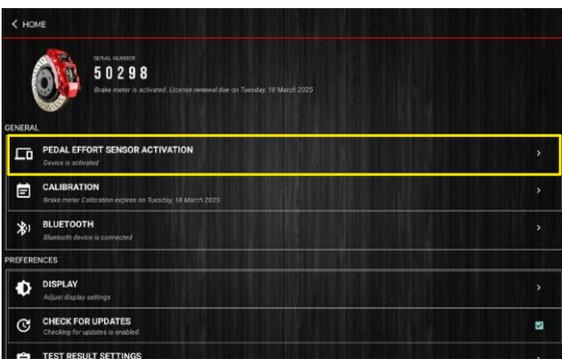

Figure 60
2. Select the Pedal Effort Sensor to activate as below (Figure 60).